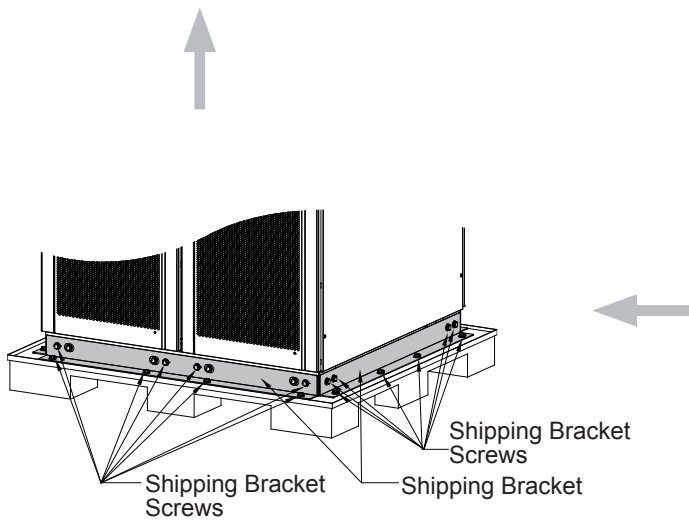

Figure 4-4: Remove the Shipping Bracket
4. Remove the screws fixed the L-shaped parts around the cabinet and remove the L-shaped parts (Figure 4-4), Please reinstall the 8 screws removed before back to the cabinet feet. Please retain the shipping parts and fixing parts for future use.